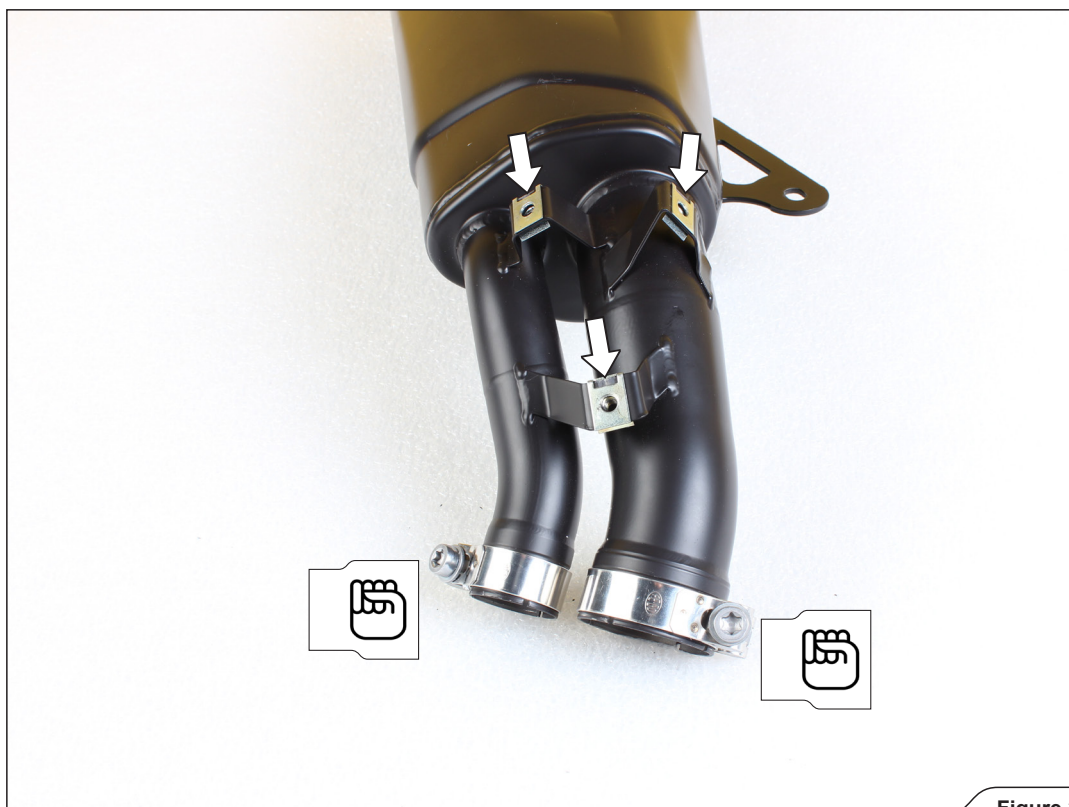

Figure 2
1. Install the clamps and press-on nuts from Akrapović installation kit onto the muffler, as shown (**Figure 2**).